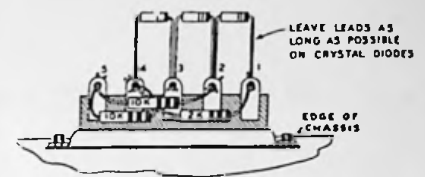
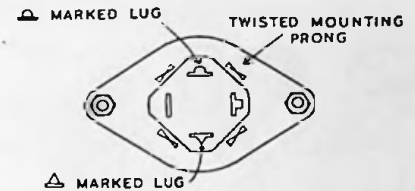

Figure 8
Figure 9
- () Connect a 2 K Ω resistor between lug 1 (NS) and lug 4 (NS). See Figure 8.
- () Connect a 10 K Ω resistor between lug 4 (NS) and lug 5 (NS).
- () Connect another 10 K Ω resistor between lug 2 (NS) and lug 5 (NS). Make sure the lead wires do not touch connections to lug 4.
- () Connect a 5 1/2" wire between lug 4 (NS) and the negative (-) lug (S) on the meter.
- () Connect a 7 1/2" wire between lug 2 (NS) and the positive (+) lug (S) on the meter.
- () Connect a crystal diode with the cathode lead (see page 23 for coding of cathode on diodes) to lug 1 (S) (2). Connect the other lead to lug 2 (NS). Leave leads as long as possible.
- () Connect a second crystal diode with the cathode lead to lug 2 (S) (4). Connect the other lead to lug 3 (NS). Leave leads as long as possible.
- () Connect a third crystal diode with the cathode lead to lug 3 (NS). Connect the other lead to lug 4 (S) (4). Leave leads as long as possible.
- () Install the filter condenser on top of the chassis by passing the mounting prongs through the slots in the mounting wafer, (make sure the condenser is properly positioned) and twist the prongs 1/8 turn with a pair of pliers. See Figure 9 and Pictorial 1 on Page 6.